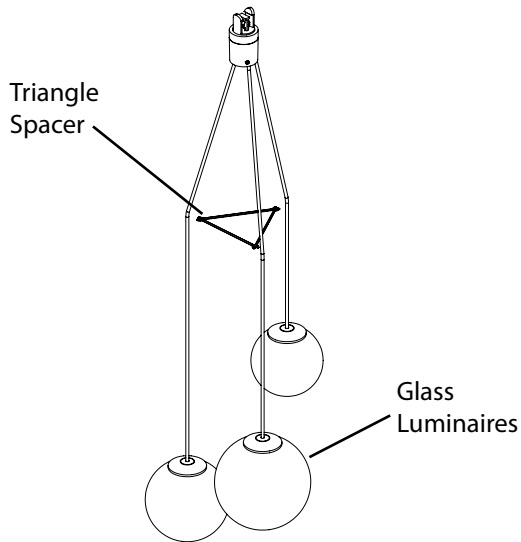
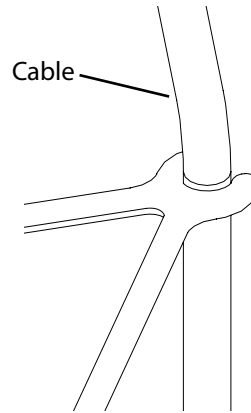

Fig. 21
Fig. 22
1. Place the **Triangle Spacer** in between the **Cables** of the fixture (Fig. 21). Snap the pendent Cables into the Spacer at three locations (Fig. 22). **Note:** Make sure **Glass Luminaires** are screwed on tightly.